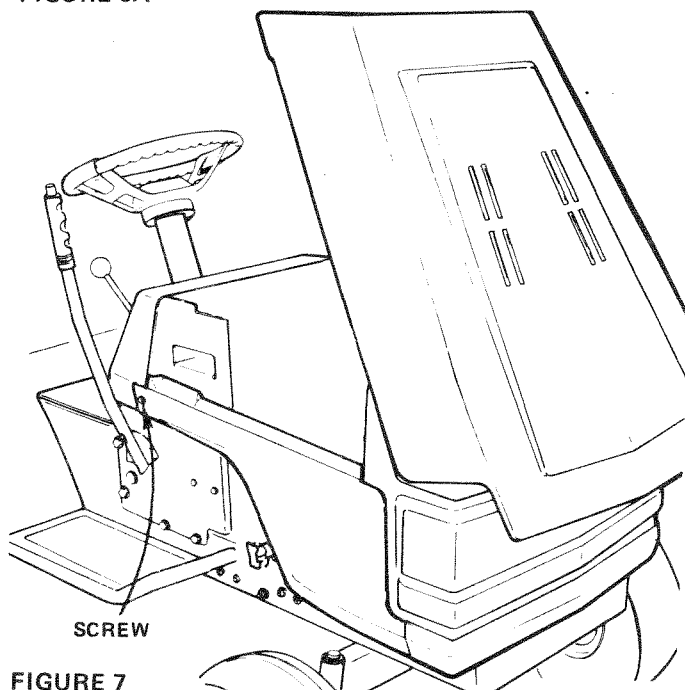

FIGURE 7
- c. To remove Hood, Grill and Side Panels, raise Hood and loosen one screw on each Side Panel. (The screw remains in the Side Panel) (Fig. 7).